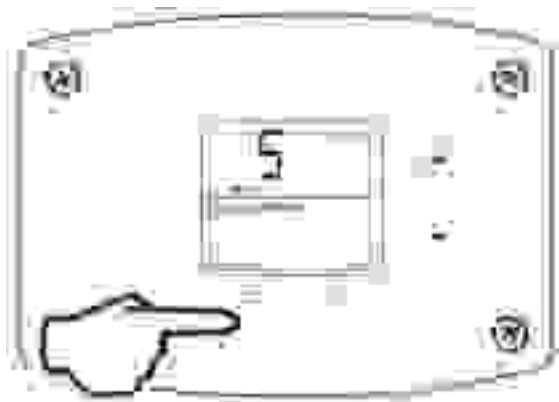

Fig. 43
6. Differential (Display only – shows the differential of the thermostat) (Fig. 43).